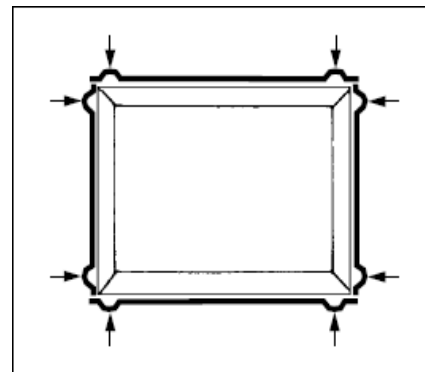
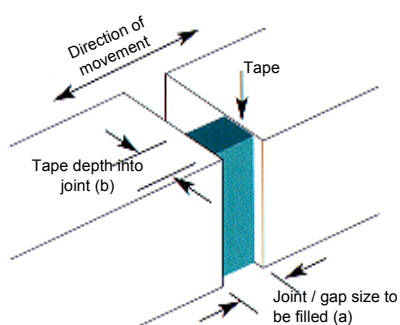

Fig. 1 – Tape application at corners Note oversize length 1cm/m
Fig. 4 – Tape recessed in joint
- If installing tape into a construction joint it may be applied either horizontally or vertically (from bottom to top.) However, when applying to a door or window frame the horizontal seals must be applied before the vertical ones (Fig. 1.) Tape must be applied with the adhesive side to the frame when working with fenestration but may be applied in any order when working with construction joints. In both cases do not stretch the tape. When working in damp conditions a wood wedge should be used to hold the tape in position until it is expanded. Ensure the tape is recessed by a minimum of 2mm. (Fig. 4.)